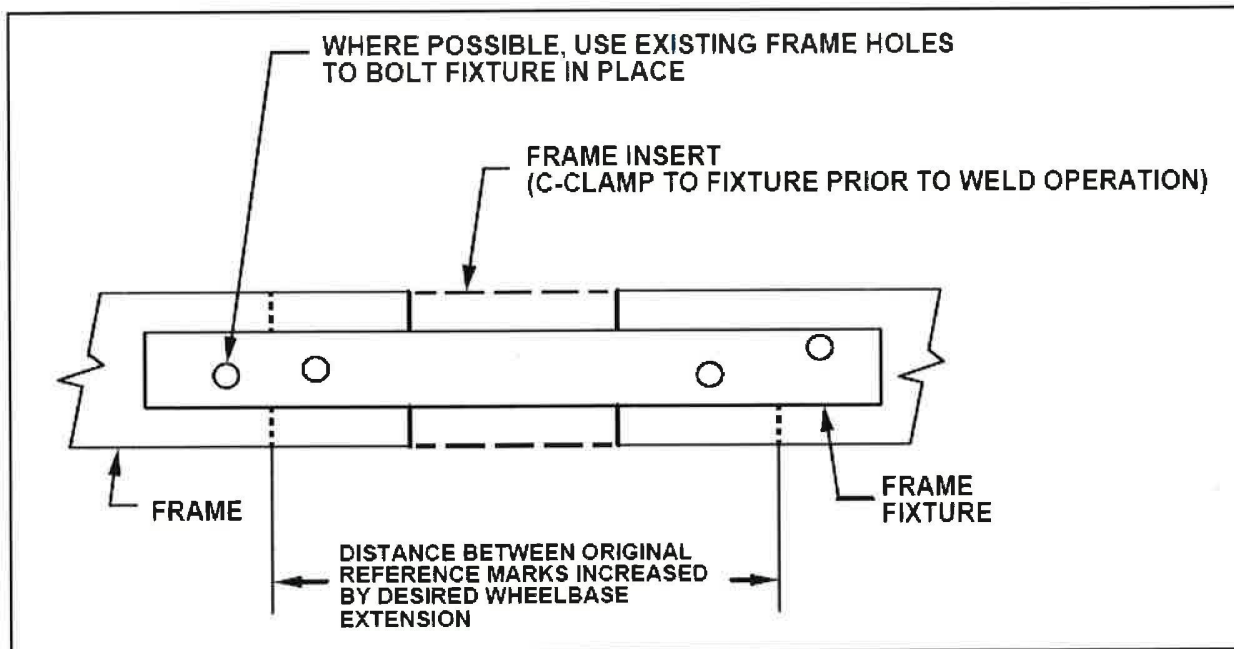

Figure 32 – Welding Fixture
- Fixture and clamp the insert to ensure correct alignment. Dimensional checks to the predetermined reference marks should be used to prevent any possible error. (See Figure 32)